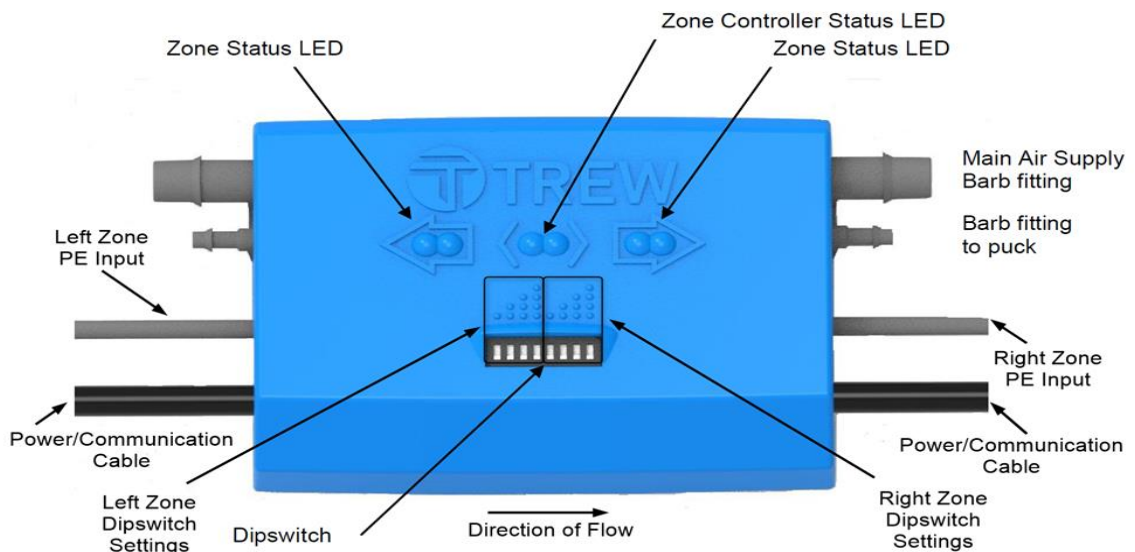

Figure 2: Smart Controller
- Intuitive Smart Controllers with built-In options maximize system efficiency. See Figure 2 and Table 1 for information on the Smart Controller.